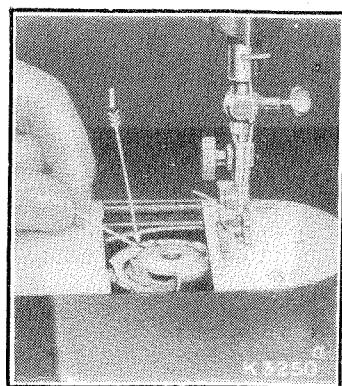

Fig. 5.
Place the bobbin in the bobbin case and draw the thread into the slot (1), as shown in Fig. 5.